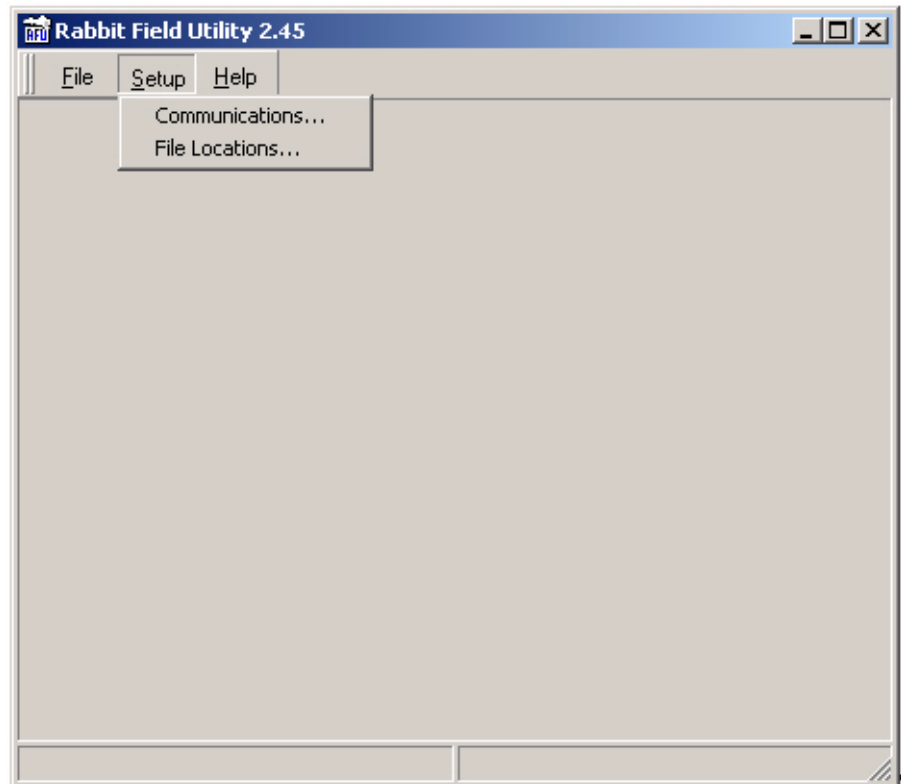

Figure 1, Select File Locations
5. Refer to Figure 1. Under the **Setup** menu item select **File Locations**.